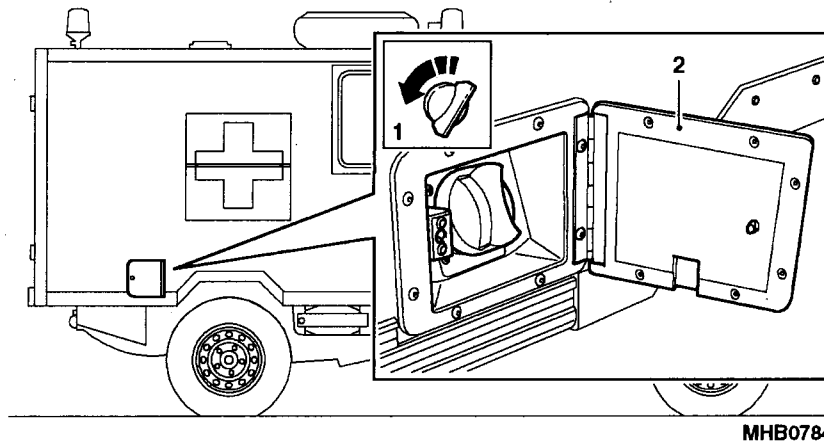

Fig 1 Fuel filler flap
3 The fuel filler flap protects the filler cap (Fig 1 (2)) from excessive cold and water penetration.
- 3.2 Remove the windscreen wiper arms (Fig 1 (1)).